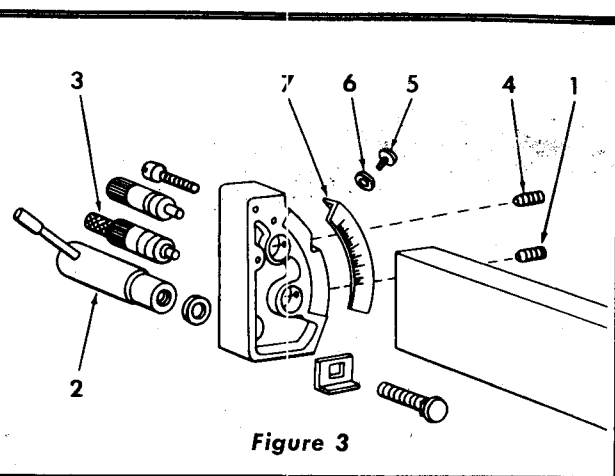

Figure 3
- a. Loosen, one turn only, the lower set screw on the right-hand side of the fence end. (See figure 3.)
- c. Holding the fence in this position, tighten the lock handle (2).
- d. Turn the knurled knob (3) through which the plunger operates, until it contacts the top surface of the jointer.
- e. Tighten the set screw (1).
- f. Set the combination square at 45° and repeat the above operation to adjust the 45° stop. Loosen the top set screw (4) first. Use the combination square to check accuracy of adjustment.